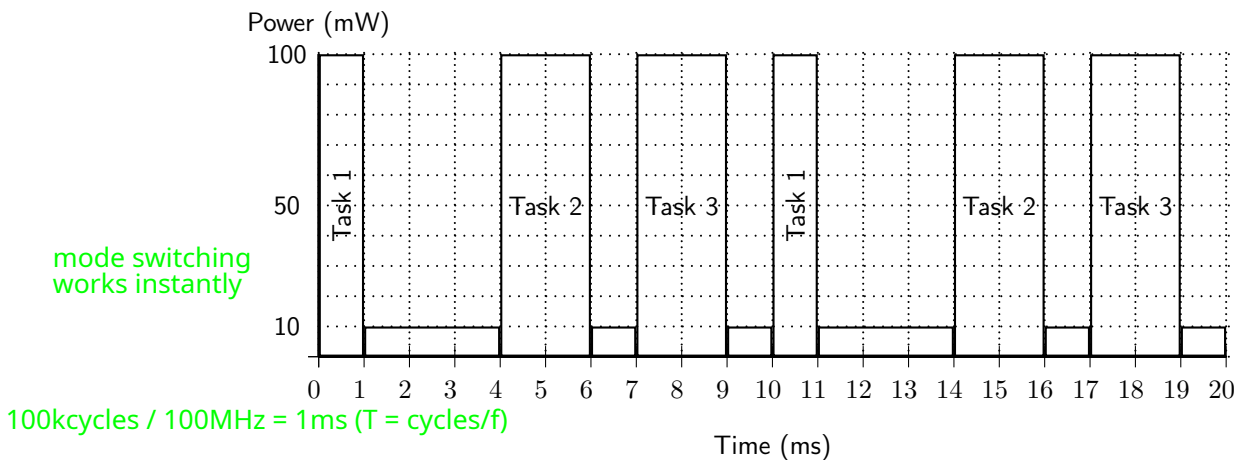

Figure 3: Energy efficient schedule using a workload-conserving scheduler.
- (a) (4 points) Assume zero transition energy (i.e.  $E_1 = E_2 = 0$ ) and instantaneous mode transitions (i.e.  $t_1 = t_2 = 0$ ). Plot in Figure 3 a schedule that includes the power consumption over time, as well as tasks that are executing, using a workload-conserving scheduler that minimizes the average power. A workload-conserving scheduler always executes when a ready task is available. W / (1/s) = Ws